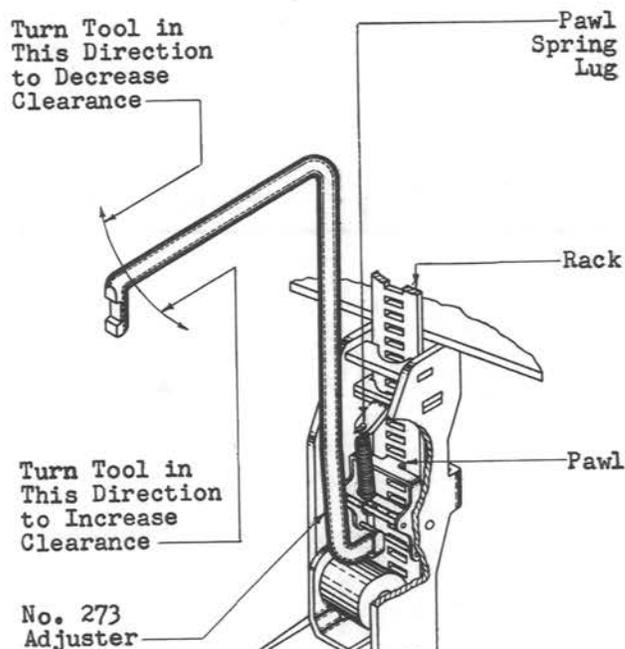

Fig. 24 - Adjusting Pawl
(4) Adjust the pawl operating arm in the desired direction very slightly with the No. 273 adjuster as shown in Fig. 24.
(5) In readjusting for these requirements, make an effort to keep the pawl as close as possible to the rack. To insure the best clutch operation and least pawl wear, make the pawl shoulders set against the face of the rack taking care, however, that the pawl clearance requirement is still met.
(6) If difficulty is experienced in adjusting the pawl to meet the requirements recheck 2.15 (Unoperated Core Gap). If the unoperated core gap